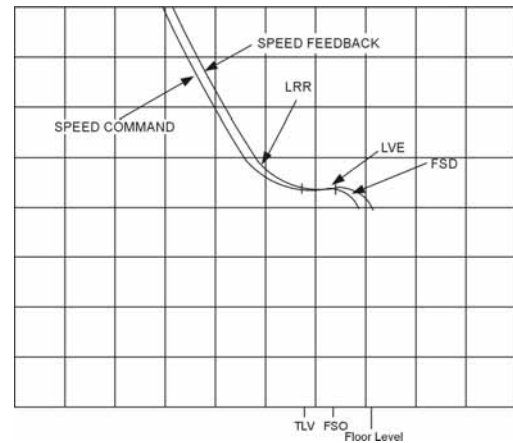

Figure 6-7
- A. Refer to Figure 6-7 to adjust the final approach to floor level.